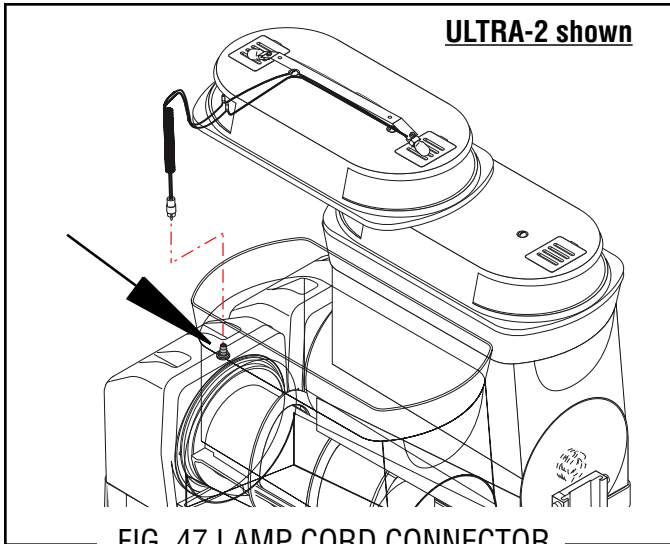

FIG. 47 LAMP CORD CONNECTOR
**NOTE:** Lamp cord assembly (Fig. 47) and lamps, must be tested and determined to be functioning properly before proceeding to step 5.